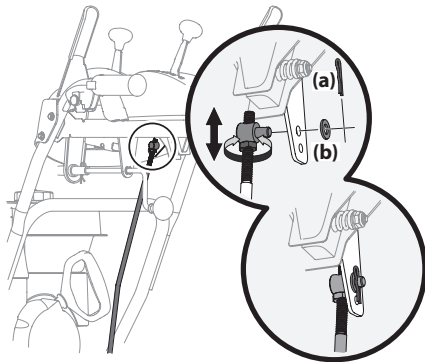

Figure 2-59
2. Remove cotter pin (a) and washer (b) from adjustment ferrule on shift rod and pull it out from shift lever. See Figure 2-59.
4. Rotate ferrule up or down on shift rod as necessary until it lines up with upper hole in shift lever. Refer to Figure 2-59 inset.